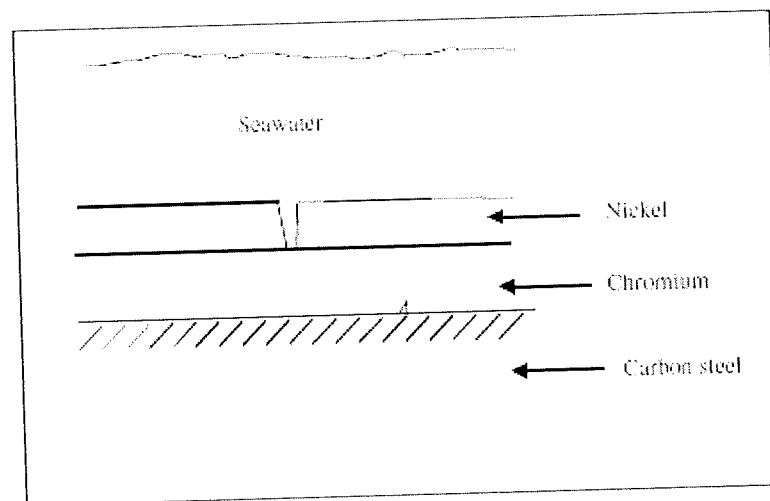

Figure 1 - Duplex coating of nickel and chromium on carbon steel
4. [a] For the duplex coating shown in Figure 1, what happens if an imperfection or a break develops in the outermost nickel coating and extends down to the chromium inner coating? If the imperfection continues down to the steel substrate, what will happen? The electrode potentials in seawater are -0.20 V for nickel, -0.40 V for chromium and -0.61 V for carbon steel, all measured vs. SCE reference electrode.